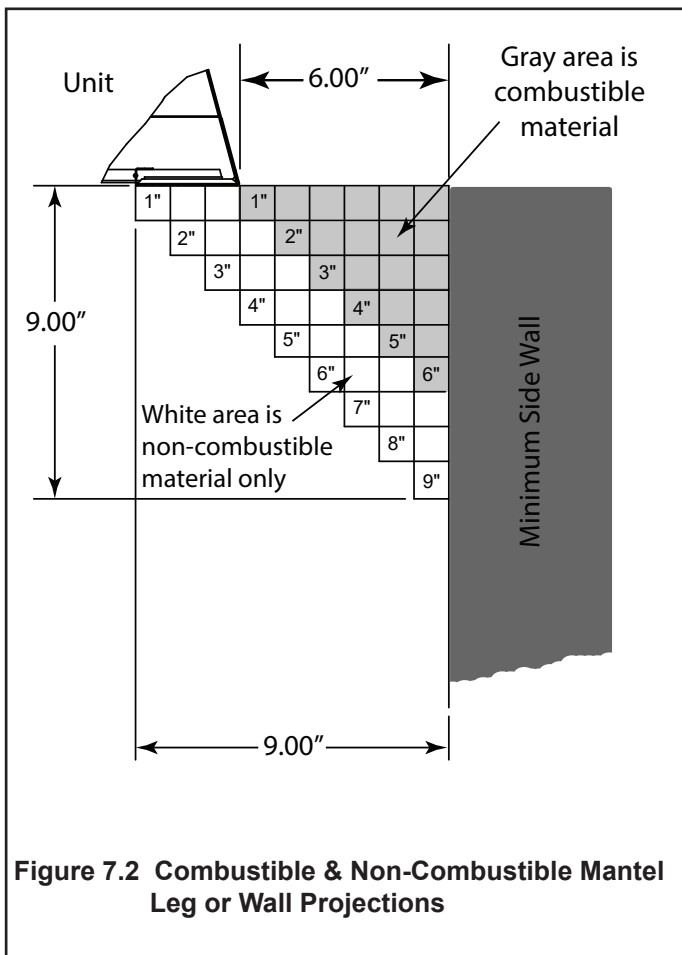

**Figure 7.1 Minimum Vertical and Maximum Horizontal Dimensions of Combustible and Noncombustible**
- See Figures 7.1, 7.2 and 7.3 for combustible and non-combustible finishing material thickness and clearance requirements.